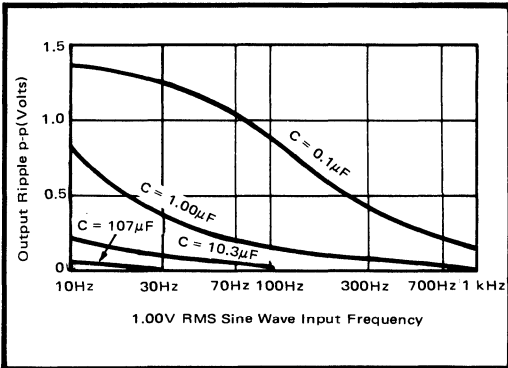
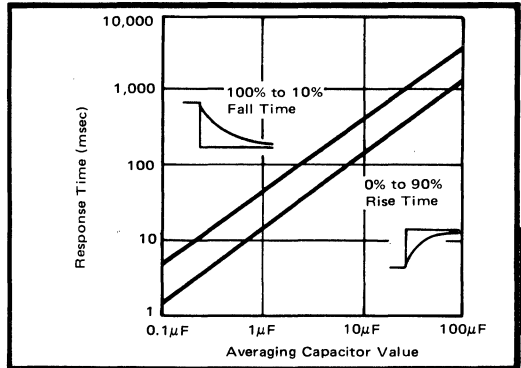

FIGURE 2. Output Ripple Magnitude vs. Input Signal Frequency.
FIGURE 3. Response Time vs. Value of Averaging Capacitor.
- (1) After standard trim procedure (see below).
(2) Model 4341 will convert DC inputs. Lower frequency AC inputs require a large value of averaging capacitor to minimize ripple at output. (See Figure 2)
A single-pole low-pass RC filter provides the averaging function. The time constant is $1/2 RC$ where R is $10k\Omega$ when the 4341 is adjusted for unity gain. To select the best value of C, make a tradeoff between output ripple and response time. Figure 2 shows the ripple magnitude vs. frequency for several typical values of capacitor. Response time vs. capacitor value is shown in Figure 3. (Note that rise times and fall times are different for the same value of capacitor).